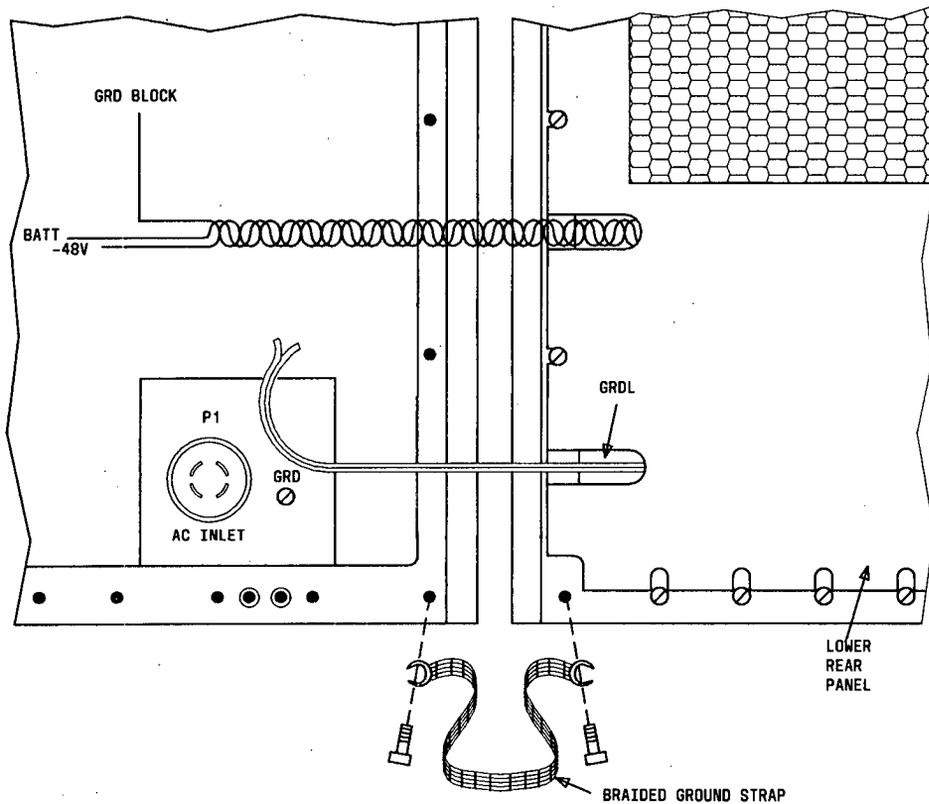

Figure 17.1 - Braided Ground Strap
- 17.1.4 Install braided ground strap (843637281) between each switch cabinet using lower rear cover mounting screws on adjacent cabinets as shown in Figure 17.1.